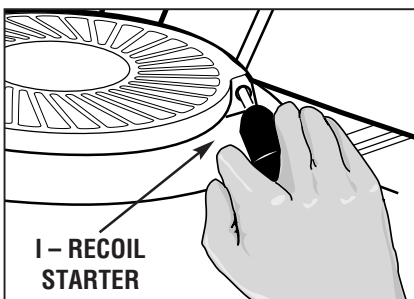

Figure 3-7
The recoil starter (I, Figure 3-7) is used to “pull-start” the engine. Detailed instructions for using the recoil starter are found in the Operation Section of this Manual and in the Engine Owner's Manual. Do not pull the recoil starter until you have read the Operation Section.
- B. Grasp starter rope handle (Figure 3-7) and pull slowly until rope pulls slightly harder. Let rope rewind slowly. Then pull rope with a rapid, full arm stroke. Let rope return slowly. If engine fails to start after three pulls, repeat instructions starting with Step 2 (try setting throttle at fast setting).